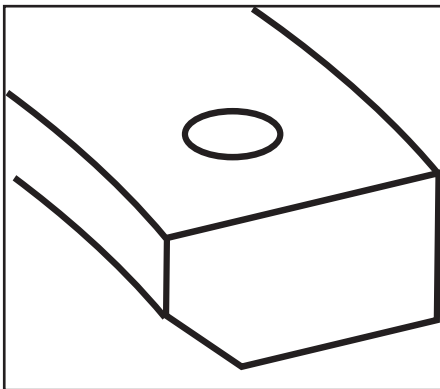

Figure 1
- B- Second compression ring has a darker, charcoal gray finish and slight bevel along inner surface. This ring has a dot. **See Figure 1**, below. Install in second or middle groove with dot up.
- 2- Plain cast ring usually goes in second groove. Plain cast type is usually a reverse torsion ring distinguished by an inside diameter bevel on one side of ring and a "dot" or oversize mark on other side. **See Figure 1** below. If two cast iron compression rings are supplied in a set, check to see if one is reverse torsion style ring with dot and bevel. Reverse torsion style ring always goes in second groove with dot up if present.
- 6- If ring has dot and inside diameter bevel, dot goes to top of piston. **See Figure 1** below.